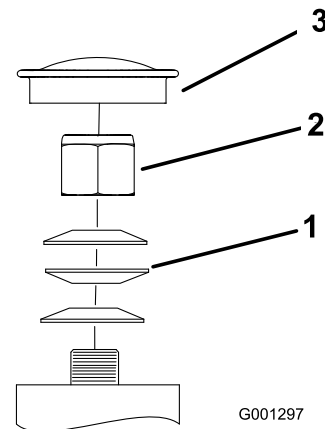

Figure 59
3. Remove the dust cap from caster and tighten lock nut (Figure 59).
4. Tighten the locknut until the spring washers are flat and then back off a 1/4 turn to properly set the pre-load on the bearings (Figure 59).
Important: Make sure the spring washers are installed correctly as shown in Figure 59.
5. Install the dust cap (Figure 59).